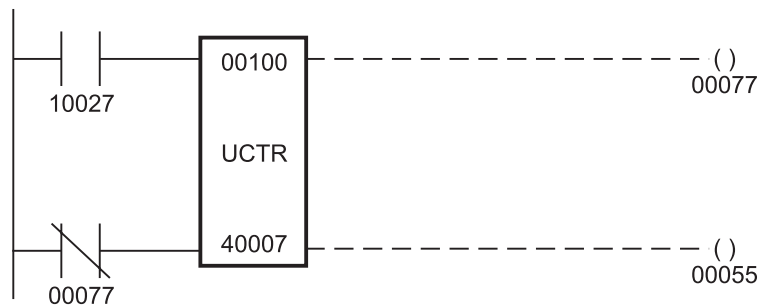

Figure 4-6
- Edit the timer type to make changes to the timer increments. This number tells you what the device is and for what incremental time it is set (e.g., T1 = timer set to accumulate time once every one second). Incremental time is set in seconds (1), tenths of a second (.1), or hundredths of a second (.01).
9. Modify the up/down counter register. See Figure 4-6.